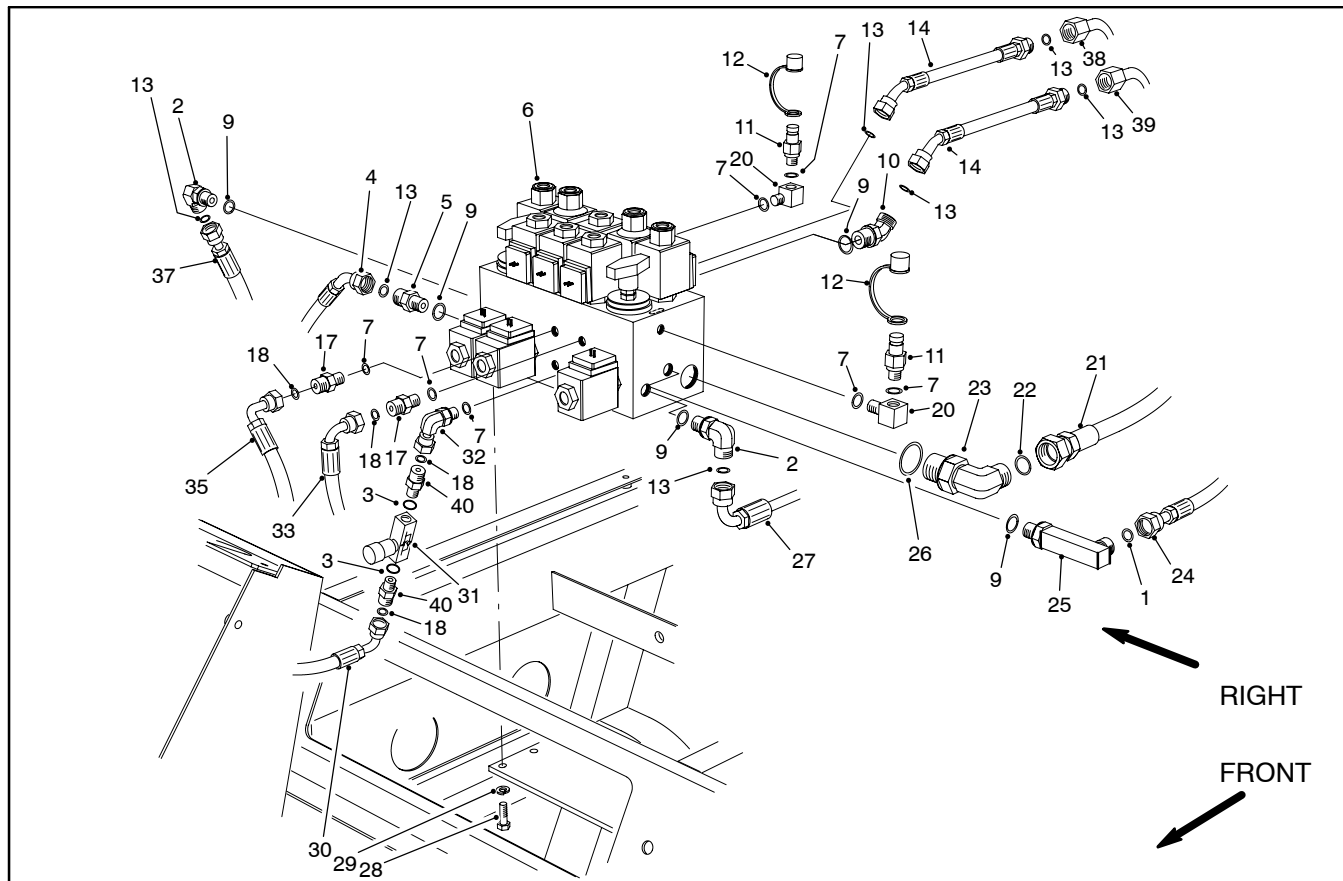

Figure 97
3. Remove hydraulic manifold from the frame (Fig. 97).
Installation (Fig. 97)
1. Install manifold to the frame (Fig. 97).